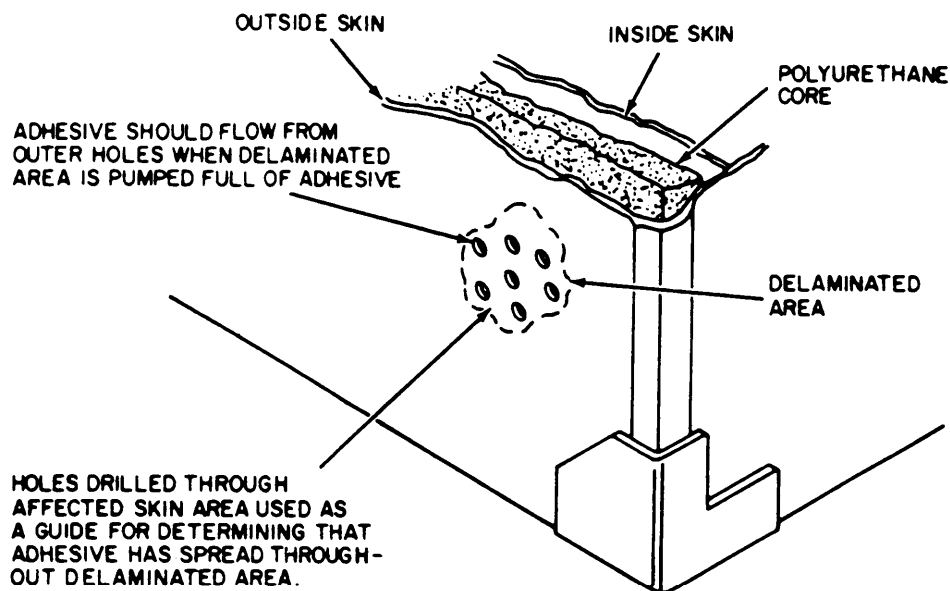

Figure 4-1. Skin Panel Delamination Repair.
b. Repair. (Figure 4-1)
(1) Mark off the limits of delaminated area.
(2) Using Figure 4-1 as a visual guide, drill a 3/16 inch diameter hole in approximate center of delaminated area of affected panel only. This hole will be used to pump epoxy adhesive into delaminated area.
- (3) Drill 3/16 inch diameter pressure release holes no closer than 1/2 inch from edge of delaminated surface. Number of holes should be determined by size of delamination area. (Release holes should be approximately 2 inches apart.)